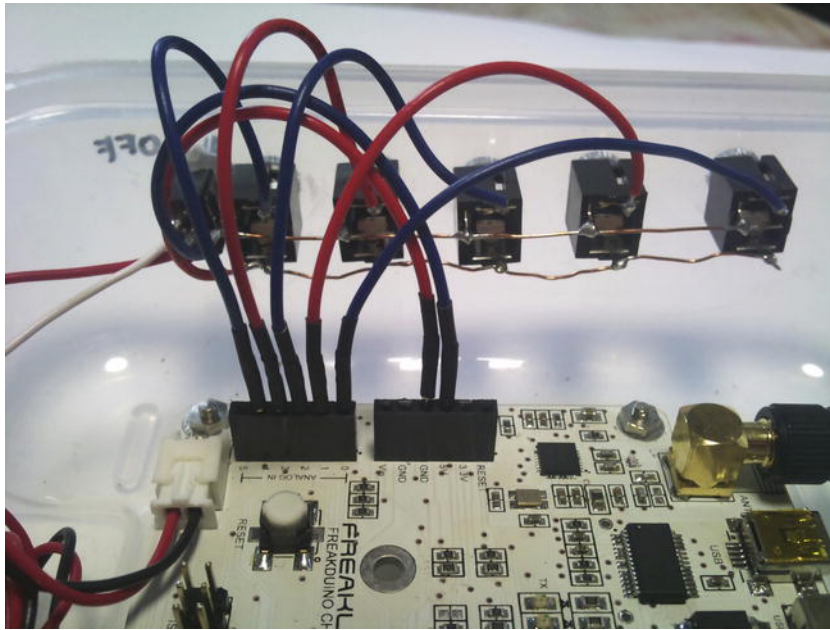

Figure 2-12. Internal connections of the SpiderTemps box.
3. Using hexagon standoff posts, screws and nuts, mount the Arduino in place. Now is a good time to double-check that there is room to spare above the Arduino. We need some space for cabling, as shown in Figure 2-12. You can see the copper wire power rails and their cables, which loop over into the right connector. The analog inputs are connected on the left. This case has five analog input sockets and a power switch on the far left.